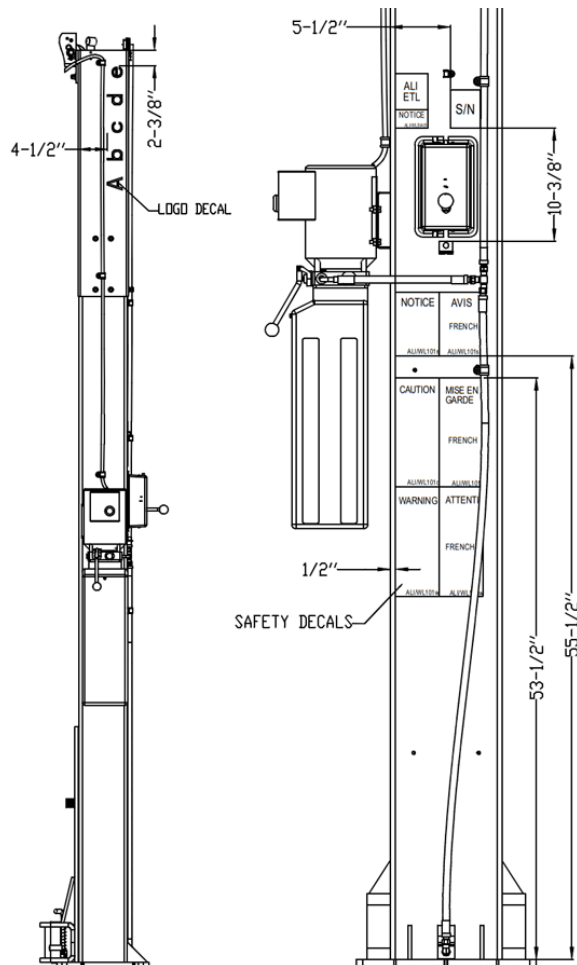

Fig 12 – Safety & Logo Decal Placement
- 42) Apply the Logo Decals to each column extension and the Safety Decals (Pg. 3) to the power column as show in Fig. 12.